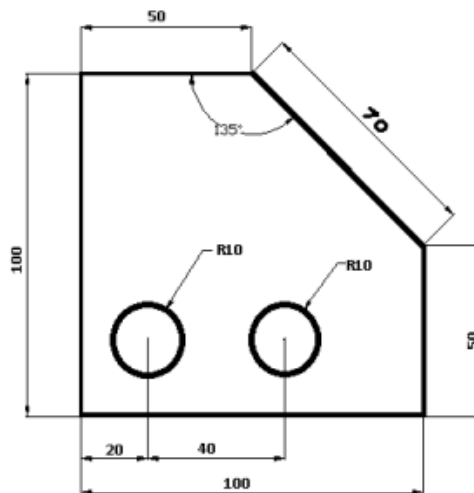

Fig.3.1 Dimensioning on 2D drawing
**Hint: 1. The following Fig.3.1 shows the type of dimensioning on 2D drawing.**